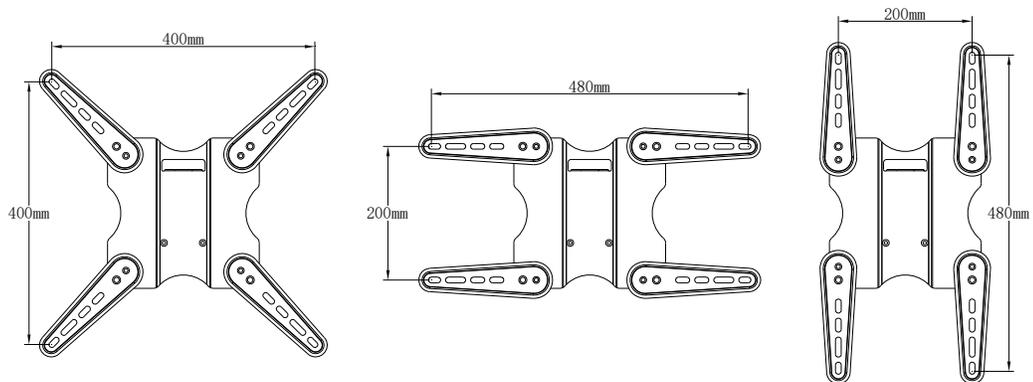

Figure 11
1. Place the TV display screen down on a soft, flat surface. Locate the four (4) threaded mounting points that are located on the back of the display (called the VESA mounting holes).
5. The Extension Bars (B2) on the TV Bracket can be configured to match the corresponding VESA hole pattern. When the Extension Bars (B2) are removed from the Hook Plate, the Hook Plate will accommodate a 200 mm x 200 mm VESA hole pattern. Other configurations are shown in Figure 11.